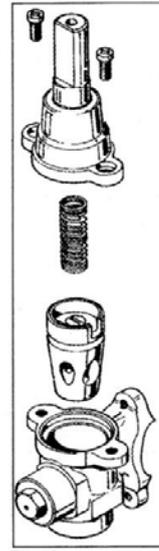

Fig. 10
- 1) Dismantle the main part of the tap by unscrewing the two screws that can be found on the bar of the tap itself. (Fig. 10)